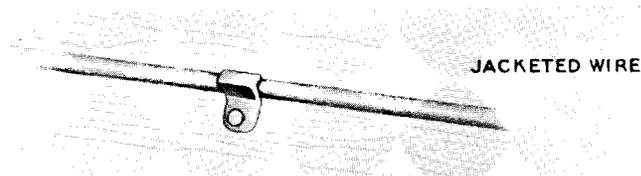

Fig. 2 – B Station Wiring Clamp
3.03 The *B station wiring clamp* is shown in Fig. 2. Table B indicates the fasteners to be used to attach these clamps to various surfaces.